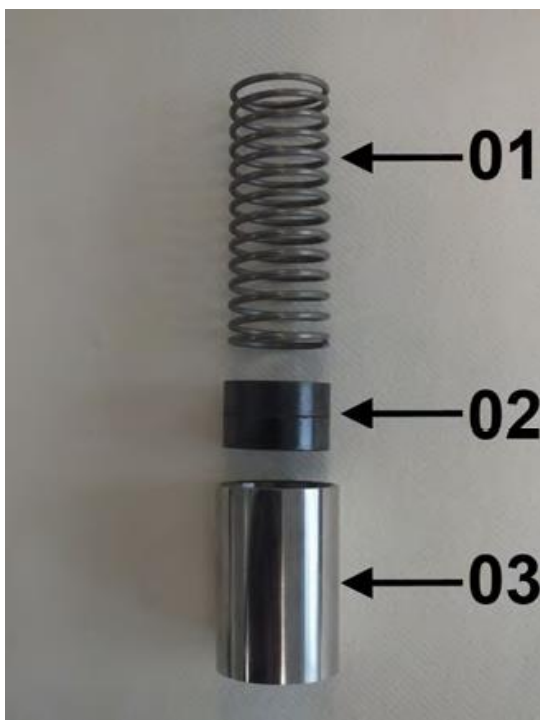

Fig. 52 Inner parts
6. ► Insert spring (Fig. 52/01) with magnets (Fig. 52/02) into the float (Fig. 52/03) ensuring proper magnetic pole orientation (north pole toward device outlet)